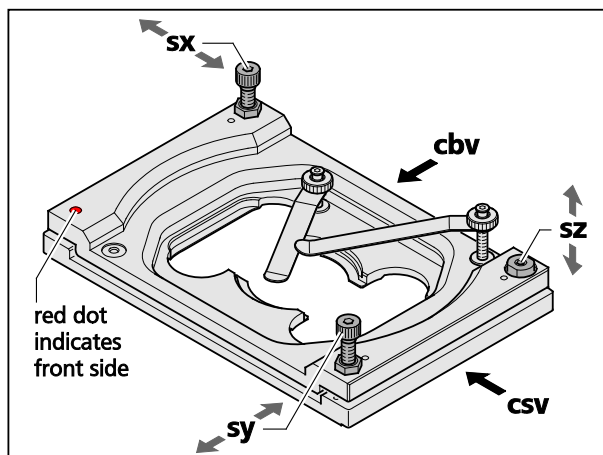
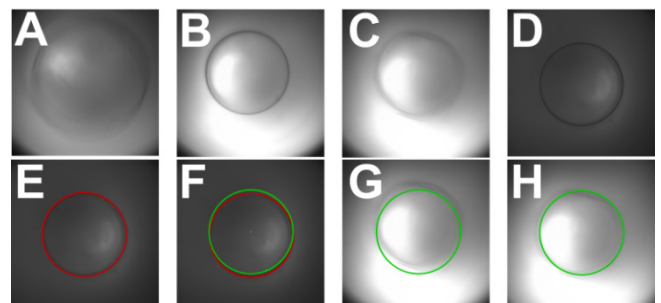

Fig. 7 Adjustable sample holder – schematic view
Fig. 8 Focus control in reflection
2. Draw fiber plug of X-Cite completely out from the X-Cite casing. Start acquisition. The image will be dark since fiber was pulled out. Put fiber back and slowly move in until you will see a coarsely adjusted image to have sufficiently reduced light levels you can work with (Fig. 8/A). (Note: with the fiber all in, the lamp is simply too bright leading to oversaturation of the camera). If the illumination is far from being centric, the sample is already strongly tilted and it is recommended to do a pre-adjustment. To this end adjust the edges of the clefts viewed from the right side (Fig. 7/csv) and back side (Fig. 7/cbv) to be parallel using screws **sy** and **sx**, respectively (Fig. 7). The cleft's width should be approximately 2 mm as preset by the factory, but can be adjusted with screw **sz** if needed.
3. Now pull (or push) fiber on the ELYRA site until the dark ring, which is already faintly visible in its contours, appears focused (Fig. 8/B). Dependent on the sample the focus could look worse, especially when the reflecting planes are wavy or you get reflection from different planes (Fig. 8/C).
4. Move in 10x objective and focus the already visible ring with the z-drive of the stand. The ring appears now well focused as long as the sample is not completely unsuitable (Fig. 8/D).
5. Mark the Ring with a ROI from the **Graphics** tool (3 point-circles will work best) (Fig. 8/E).
7. Draw a new circle with the same diameter in the original image with the new coordinates (Fig. 8/F). The old circle is not necessary anymore and can be switched off or deleted (Fig. 8/G).
8. Turn nosepiece back to free position. Then level stage by turning the screws of the sample holder (Fig. 7/sx & sy) until the more or less focused circle of the fiber overlaps with the ROI-circle (Fig. 8/H).